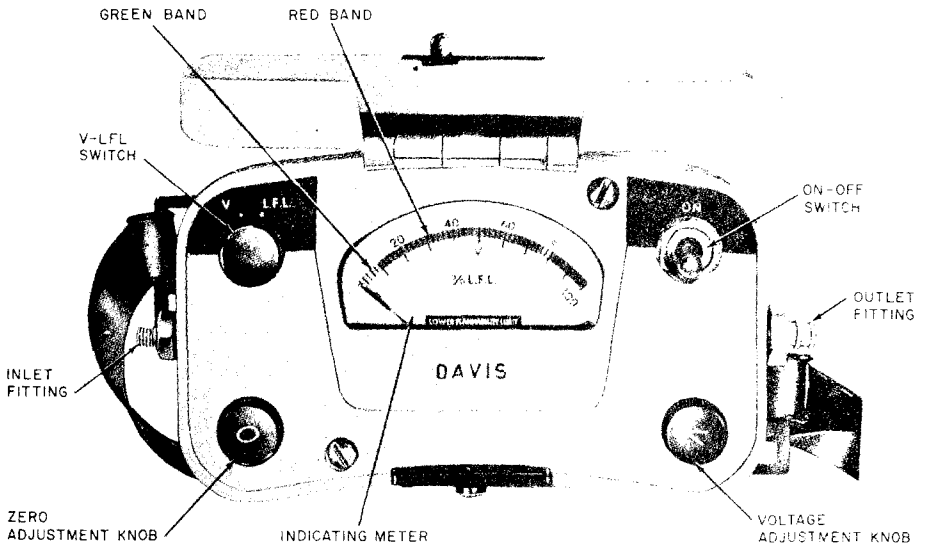

Fig. 4—F Gas Indicator (Top View)
3.02 Test for Gastightness: Test the aspirator bulb, its short hose, and the indicator to determine if all are gastight and the bulb outlet valve is operating properly. See Fig. 4 for location of various fittings. Place one finger over the inlet fitting, squeeze and release the bulb. The bulb should remain deflated for at least 10 seconds. If it does so these items are satisfactory. Proceed to 3.05 to test the filter. If the bulb inflates in less than 10 seconds, there is a leak, either in the aspirator bulb, its short hose, or the indicator which must be corrected before the indicator is used. Proceed as described in 3.03.
3.06 Adjustment of the Indicator: These adjustments should be made before each test except as discussed in 4.07. The location of the ON-OFF switch, V-LFL (volt-lower flammability limit) switch, zero adjustment knob, voltage adjustment knob, and indicating meter are shown in Fig. 4. Adjust the F Gas Indicator in free air as follows.
4.04 ♦The meter face of the indicator is color coded as shown in Fig. 4 with a green band from 0 to 10 percent and a red band beyond 10 percent. These colors indicate satisfactory and unsatisfactory atmospheres, respectively, as discussed in Section 620-140-501.♦